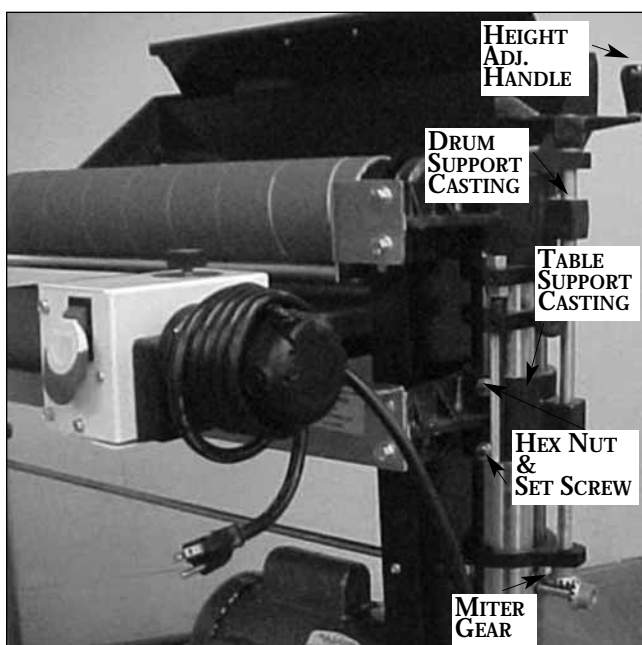

Fig. 19. Table support casting set screws.
When troubleshooting the height adjustment mechanism, first check the conveyor table for level (see page 6). Then test the height adjustment mechanism (See Fig. 19). If it does not operate
1. Loosen the set screws located at the front of the table support castings (Fig. 19).
3. If the height adjustment feels stiff, check for misalignment of adjusting screw supports and the drum support castings which could cause binding on the adjusting screw rods (Fig. 19). These castings can be adjusted by loosening the set screws which secure them to the column tubes. Realign the adjusting screw supports by loosening the two set screws that hold them to the column tubes and rotate to the proper position.
(outboard) drum supporting casting (Fig. 19) must both be set at the proper height along the column tubes so the height adjusting screws provide for proper miter gear alignment. Before adjusting these parts, tighten one set screw in the table support castings (Fig. 19) to hold the height adjusting screw in position during adjustment.
Also check to see that the column tubes are centered inside the bore of the table support castings (Fig. 19). If not, loosen the casting bolts and tighten the set screws at the front of table support casting to center the tube. Retighten the bolts and loosen the set screws.
1/32" or less. If there is excessive space, move the adjusting screw support to the proper distance above the miter gear and retighten. Loosen the set screws in the table support castings (Fig. 19) and test for smooth operation.